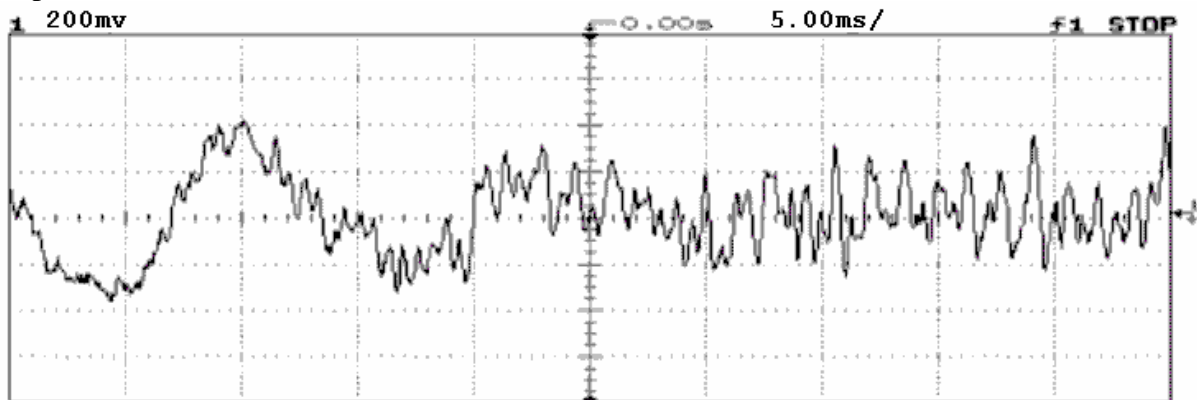

Figure 9
*test input signal:* The transmitter is a 555-timer circuit very similar to an astable multivibrator. The only difference is that instead of generating a regular string of pulses, it generates a string of pulses which vary in frequency in response to the input signal at pin 5. It is best to use a sine wave to debug this circuit. A typical audio signal is pictured in figure 9. Note that the signal below has several frequencies. There are about 10 cycles of a typical wave in a 5 ms division. This corresponds to a frequency of about 2K hertz. Also note that the amplitude reaches a maximum of about 400mV. If we assume that this audio signal is typical of what we will get from our audio source, we should set the function generator to a frequency of 2K and an amplitude of 400mV.